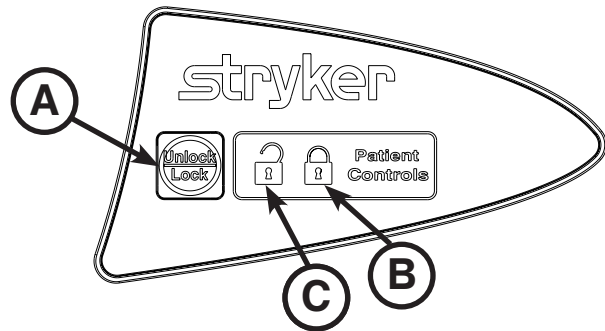

Figure 21: Patient Control Lockout
To lock the siderail patient controls, press the **Lock/Unlock (A)** button as shown in Figure 21. The lock icon (B) is illuminated amber while the patient controls are locked. The foot end nursing controls are not locked.
To unlock the siderail patient controls, press the **Lock/Unlock (A)** button as shown in Figure 21. The unlock icon (C) is illuminated green when the patient controls are unlocked.